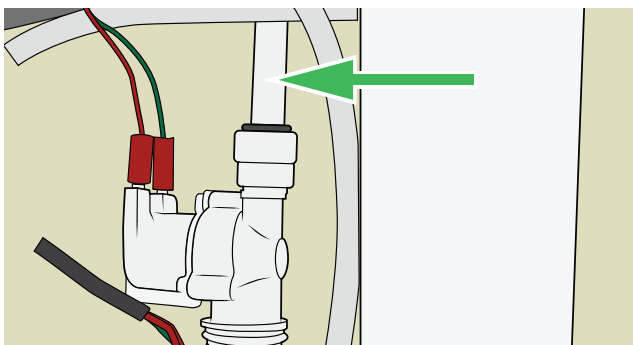

Figure 40
23. Disconnect the PEX pipe to shower function. See Figure 40.